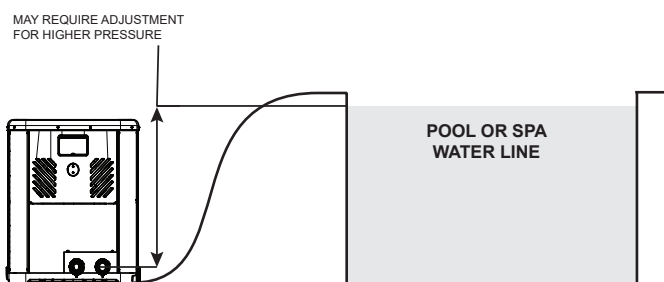

Figure 3. Water Pressure Switch Adjustment
- When the heater is located below the water line of the pool or spa, it may be necessary to adjust the Water Pressure Switch (WPS) to compensate for the no-flow static head (see Figure 3). For more details about adjustment, please refer to the Water Pressure Switch section on page 30. If after adjusting the WPS to its maximum setting without resolution, an external Water Flow Switch (WFS) must be installed. See "Water Flow Switch" section below for further installation instructions.